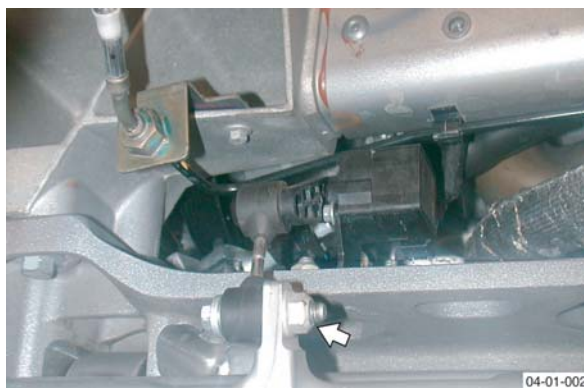

Figure 1
2. Remove nut/bolt securing ride height sensor link to lower suspension arm (see Figure 1).